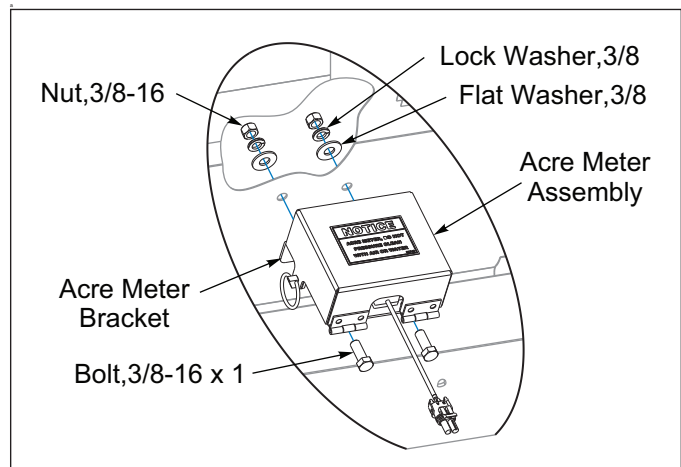

Figure 2-14: Mounting Acre Meter
14. Mount the Acre Meter Assembly to the rear left side of the Agitator Seed Box below the bend. **See Figure 2-14.** Place the Acre Meter Assembly Bracket against the Seed Box as a guide for the two 13/32" diameter holes. Drill holes into the Seed Box.